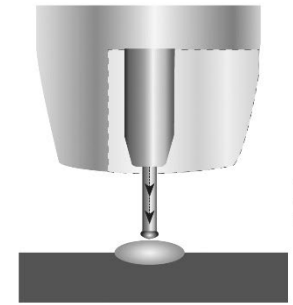

Fig. 18
6. The wire feed speed overcomes the heat of the arc and the wire again approaches the work to short-circuit and repeat the cycle (Fig. 18).